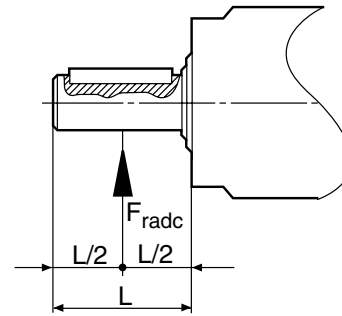

Fig. 3: Force applied at centre of shaft
- a. The force is applied to the centre of the output shaft, as in figure 3. This value can be read off on the table below, where consideration must be given to the following: